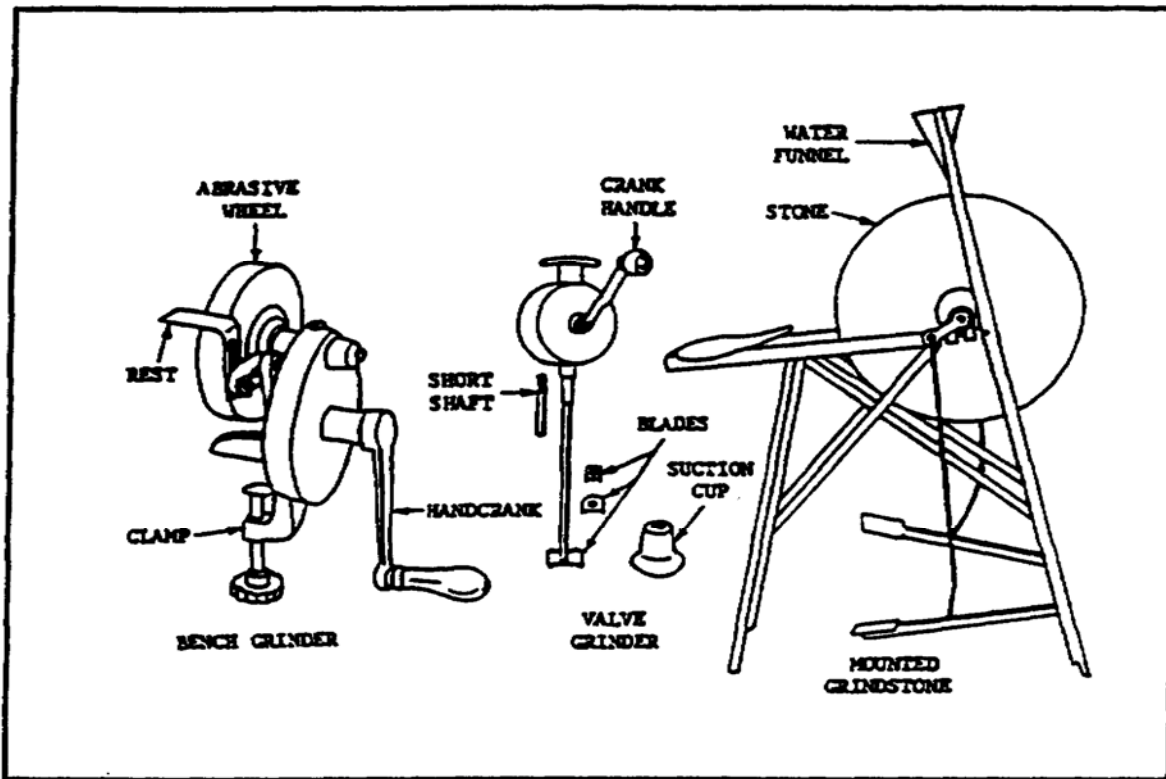

FIGURE 62. GRINDERS AND GRINDSTONE.
(1) *Bench Grinder.* A bench grinder (figure 62) is a device with an axle to mount an abrasive wheel and a handcrank that will permit turning the wheel. The grinder is geared so that the wheel spins faster than the crank. This type of grinder is clamped onto a bench and is equipped with a rest for alignment of the work when grinding.
(2) *Mounted Grindstone.* The mounted grindstone (figure 62) is foot-powered. The nonglaze grit stone is 2 inches wide and 22 inches in diameter. A funnel-shaped container of water, which constantly wets the stone during grinding, is suspended over the stone.
(3) *Valve Grinder*. The hand valve grinder (figure 62) is a device that is used to lap engine valves in their seats. It consists of pinion gearing enclosed in a heavy, machined, cast iron housing. An external crank handle drives the gears, which rotates a shaft. The end of the shaft is designed to hold any one of three driving blades for use on slotted valves. Nonslotted valves can be driven by a rubber suction cup, supplied with the grinder, that fits the shaft. Two shafts are furnished; one short and one long.
(1) *Bench Grinder and Grindstone.* Wear goggles when using a bench-type grinder and the grindstone. Use the rest (figure 62) provided on the grinder frames to support the work. Hold the tools that are being shaped so that they will not catch in the abrasive wheel; otherwise, they will slip and injure the operator, or wear the wheel excessively. To grind specific tools, refer to instructions covered in pertinent sections of the technical manual on the particular tool you desire to grind or sharpen. Never use a cracked wheel. Before using a wheel, tap it lightly with a mallet. A ringing sound indicates that the wheel is satisfactory; a dull sound indicates that the wheel may be cracked.
(2) *Valve Grinder.* A hand valve grinder (figure 62) is used for grinding or lapping a valve. By applying a small amount of grinding compound around the valve face and rotating the valve in its seat with the grinder, a perfect lap can be made. The grinder is geared so that the attached blade rotates quickly. One complete revolution of the crank handle advances the blade several revolutions. Check the grinding operation by removing the valve and applying a thin coat of prussian blue on the face of the valve. Reinsert the valve and, with hand pressure on the valve head, rotate the valve about one-quarter turn on its seat. Remove and inspect the impression made on the prussian blue. The impression will indicate the accuracy of the seating. Continue to lap grind the valve face until the entire circumference of the valve seat, without a gap, indicates